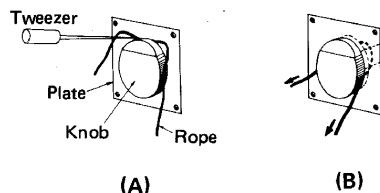

Fig. 4
1. Slip a piece of cord behind the knob and gently pull outward. (Fig. 4)
3. Insert a rope between the knob and plate by using tweezers or the like as shown in Fig. 4-A. When the rope reaches the back of the knob as in Fig. 4-B, pull it to remove the knob.